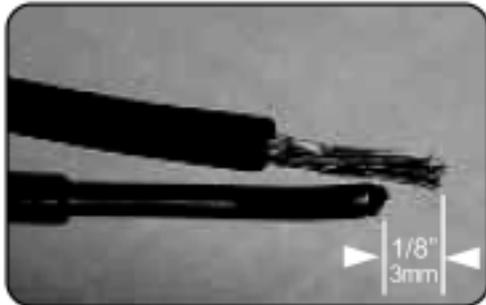

Figure 28/illus. 28
- Extend the dishwasher's stranded wires 1/8" (3mm) beyond the power supply cable's solid wires, as shown in Figure 28.